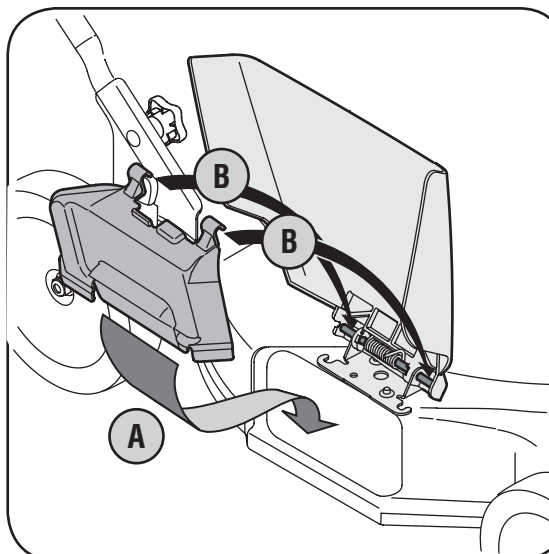

Figure 3-6
- a. Lift up and hold the side-discharge chute deflector and insert bottom lip of the mulching baffle inside the chute opening. See Figure 3-6.